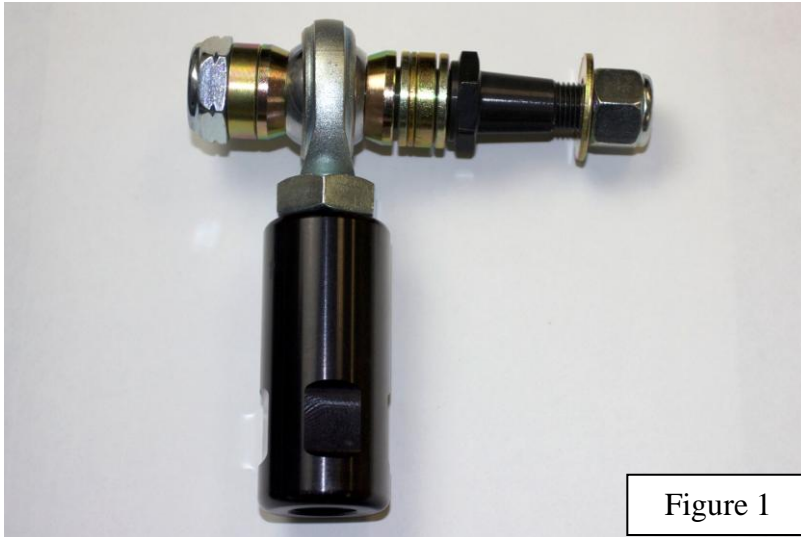

Figure 1
7. Install the tapered spacers on the straight portion of the tie-rod stud with the tapered side contacting the rod end (fig 1.). Arrange the spacers and rod end on the straight portion of the tie-rod stud. The final adjustments will be made on an alignment rack by the alignment shop. In the meantime, install the spacers at your "best guess" position, which you determine by trying to make the tie rod as close as possible to parallel with the lower control arm.